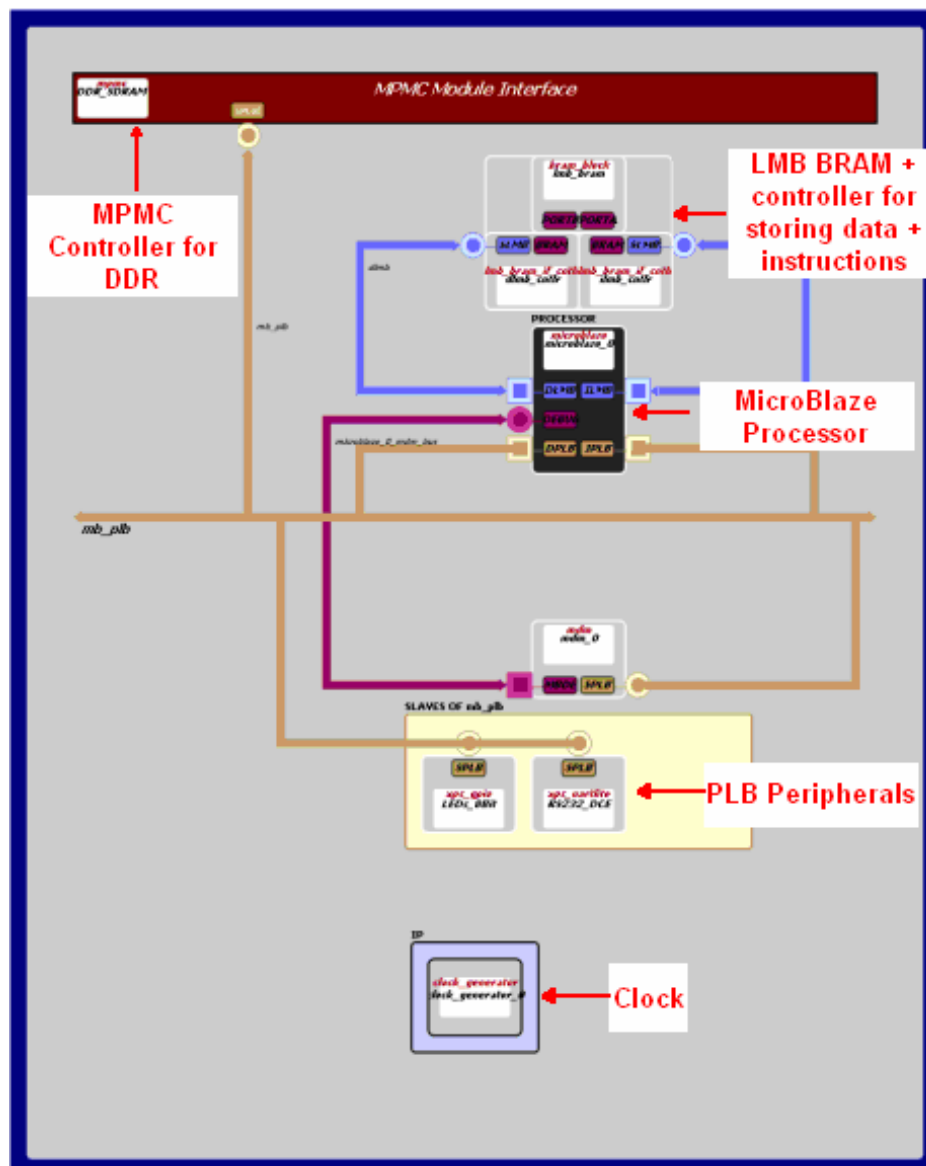

Figure 13. Block Diagram View of the Generated Project
- 2-1-1. Click on the **Generate Block Diagram Image in project** to open a block diagram view (**Figure 13**) and observe the various components that are used in the design.